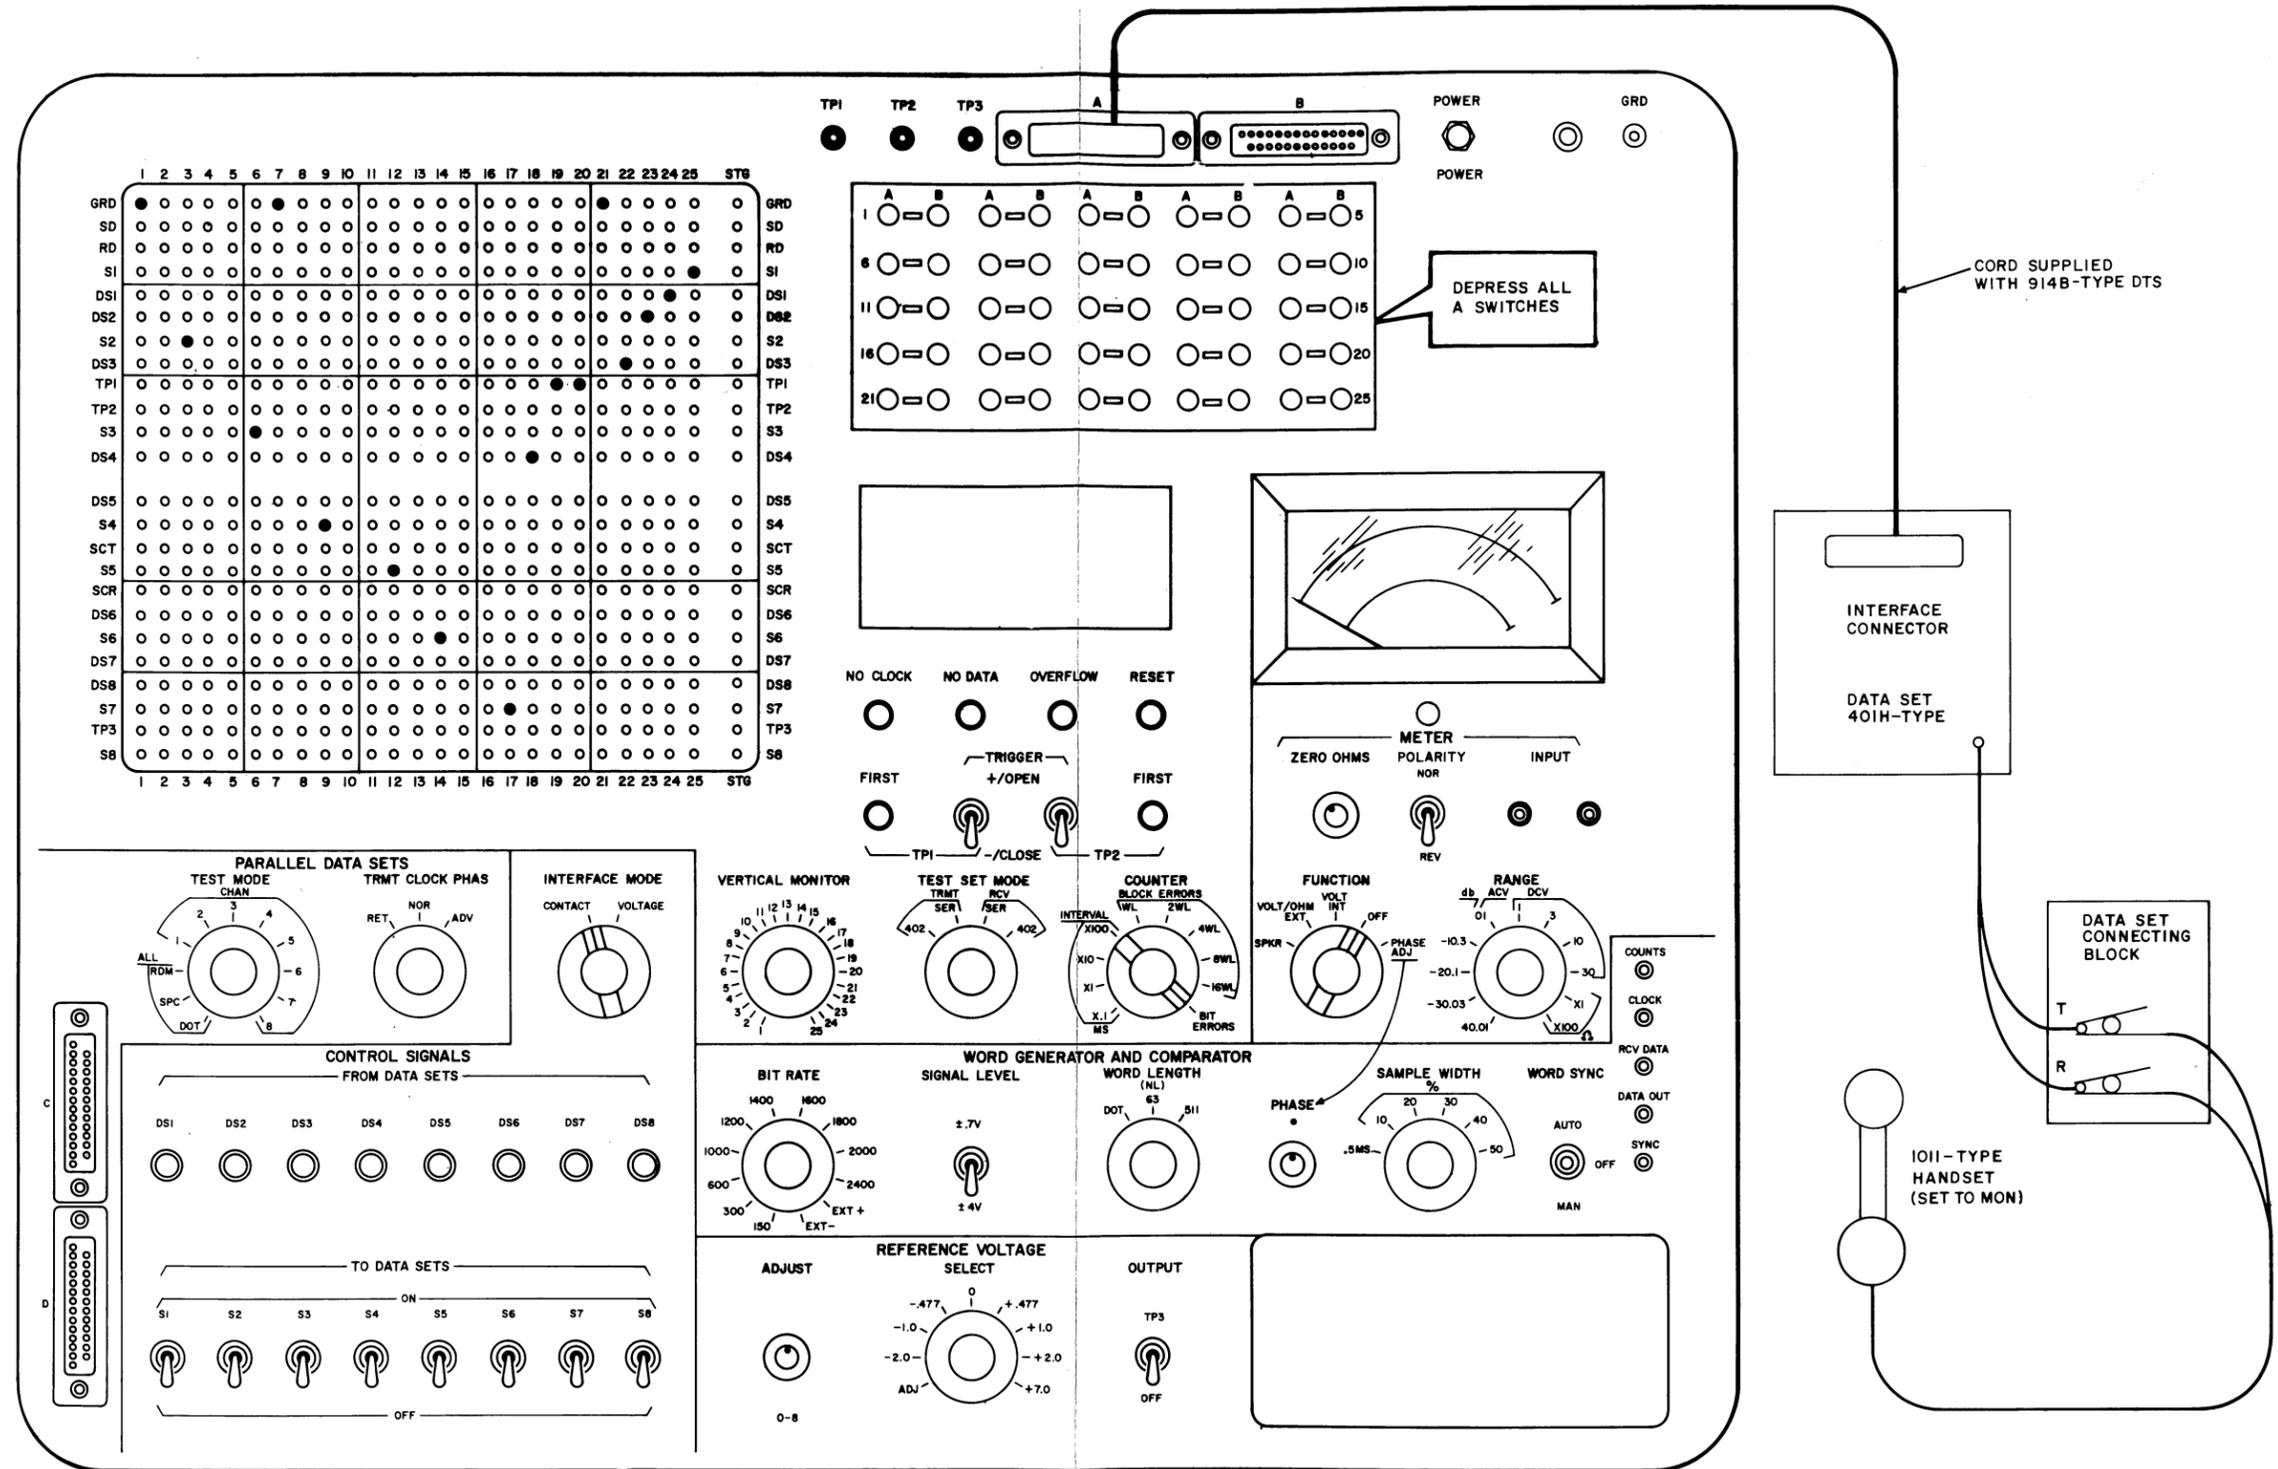

Fig. 2—Test Connection Diagram
*Test set switches not shown on the test connection diagram (Fig. 2) or not mentioned in text are not required for the test. Before making any test connections, ensure that all programming*
*pins are removed from the 914-type DTS matrix. Insert only those pins shown in the test connection diagram (Fig. 2).*
1	Arrange the 914-type DTS as shown in the test connection diagram (Fig. 2).